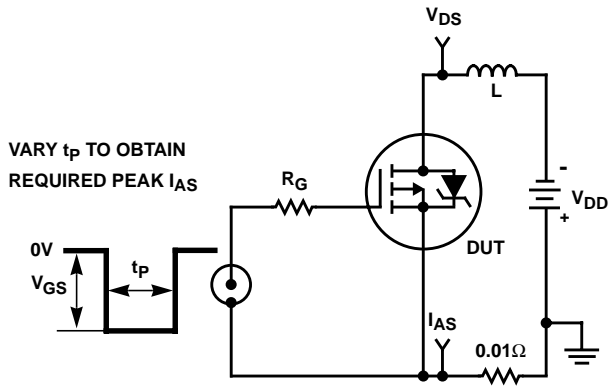

FIGURE 15. UNCLAMPED ENERGY TEST CIRCUIT
4. $V_{DD} = 25\text{V}$, starting $T_J = 250^{\circ}\text{C}$, $L = 34.7\text{mH}$, $R_G = 25\Omega$, peak $I_{AS} = 4.0\text{A}$. See Figures 15 and 16)